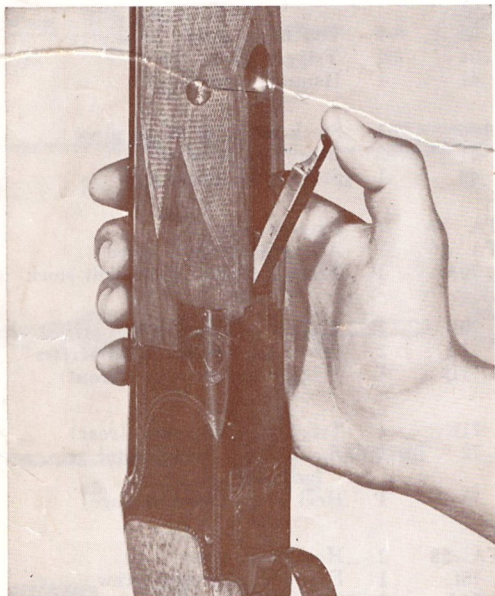

Fig. 1
- 1° Press the fore-end lever towards the action and allow this part to hang down (fig. 1).